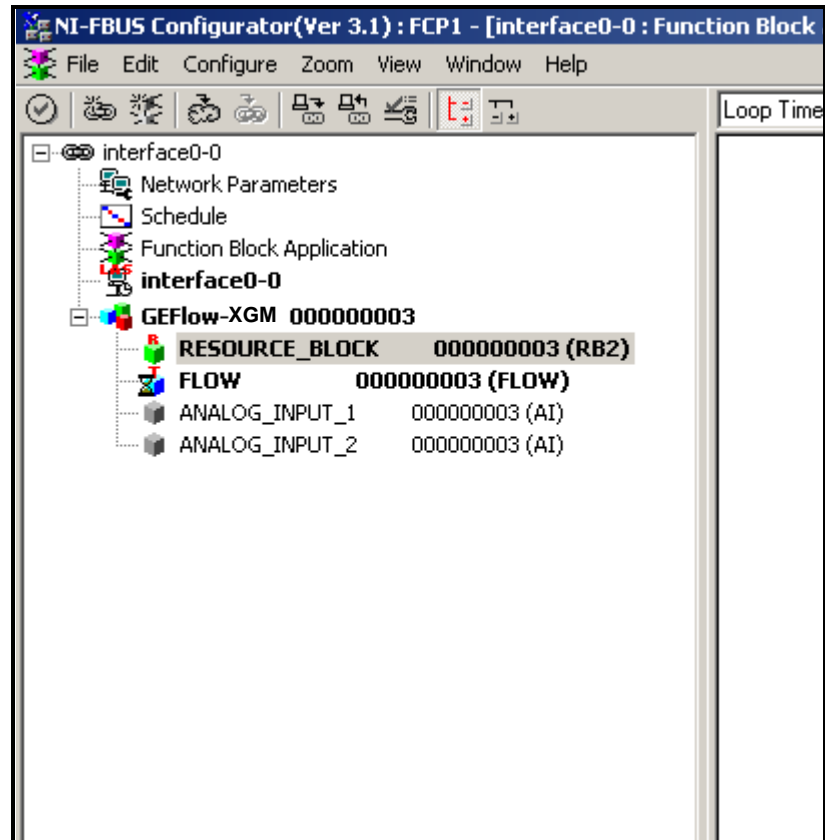

Figure E-1: Configuration Utility Setup Example
Figure E-1 below shows the Configuration Utility with a flowmeter on the network (GE Flow-XGM).
1. Double click on the AI block for which you wish to set the units (ANALOG_INPUT_1 or ANALOG_INPUT_2 in the tree under GEFlow-XGM; see Figure E-1 on page E-2).
1. Double click on the FLOW transducer block (in the tree under GEFlow-XGM; see Figure E-1 on page E-2).